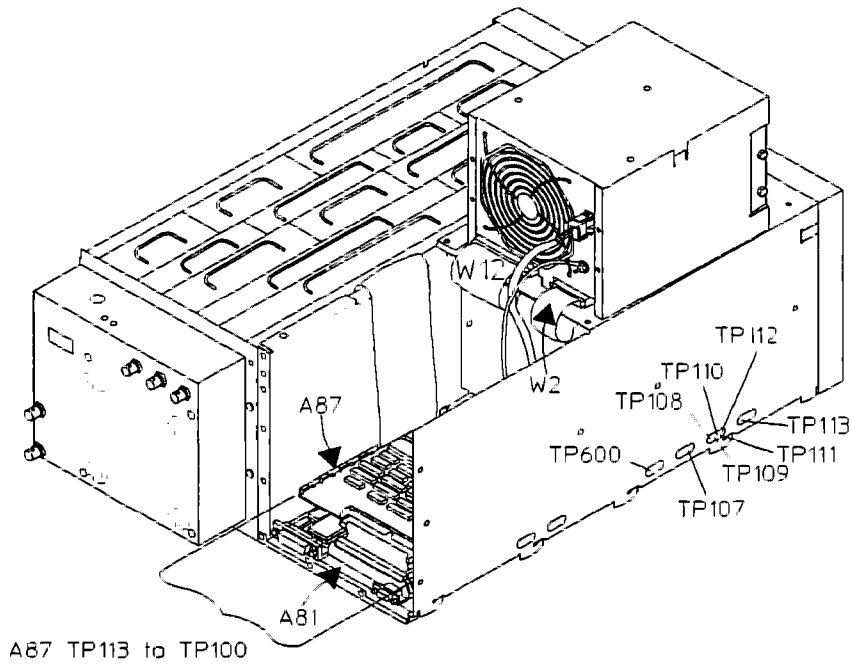

Figure 4-11. Control Lines Test Location
2. Set the power switch to ON (I). Check the signals in table 4-10 with a logic probe or oscilloscope (see figure 4-11).